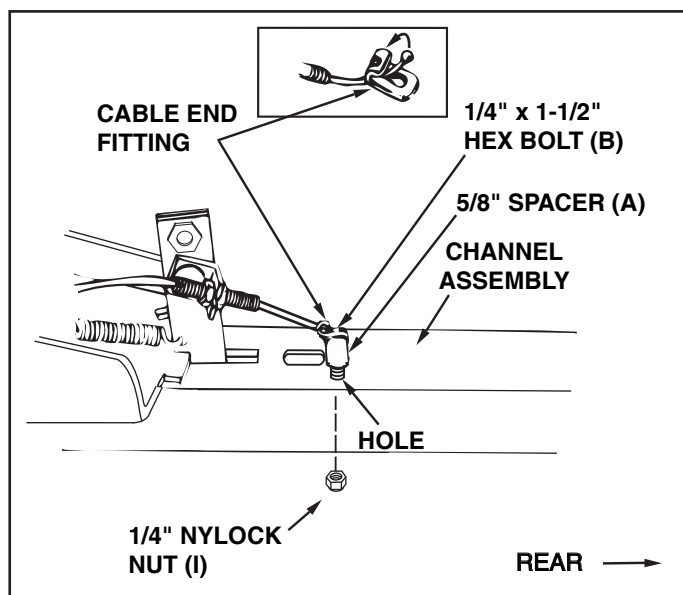

FIGURE 13 (Left Hand Side View)
23. Assemble ball end of control cable up through hole in cable end fitting and pull until ball slips inside curled edge of fitting. If ball won't slip under edge of curl, it will need to be inserted through open end of curl. See figure 13.
24. Assemble 1/4" x 1-1/2" (B) hex bolt down through the cable end fitting, the 5/8" long spacer (A) and the left hand hole in the channel assembly. Secure with a 1/4" nylock nut (I). Tighten. See figure 13.